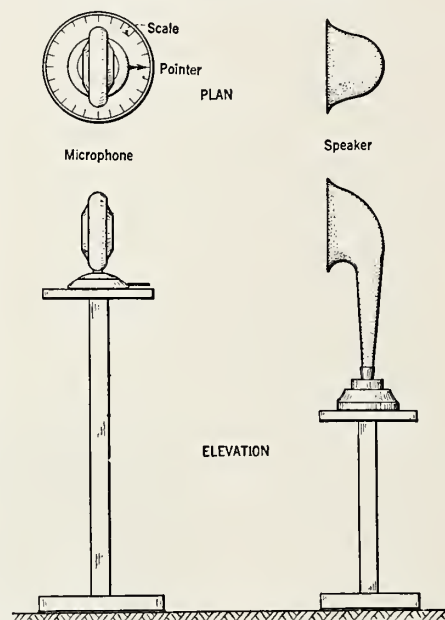
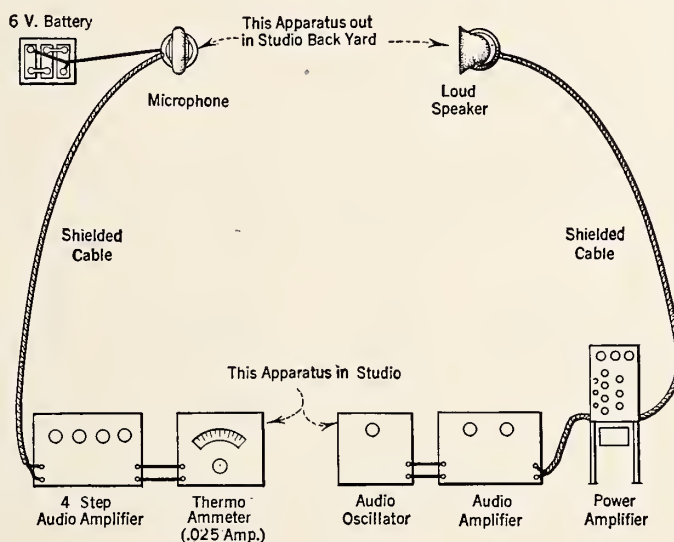

FIG. 1
FIG. 2
it is certain that pure sound sources will accentuate the characteristics herein shown. Fig. 1 is a sketch showing the physical arrangement of the apparatus in these tests, and Fig. 2 is a diagram of the connections.
1. Set up emitter and receiver facing each other as shown in Fig. 1.